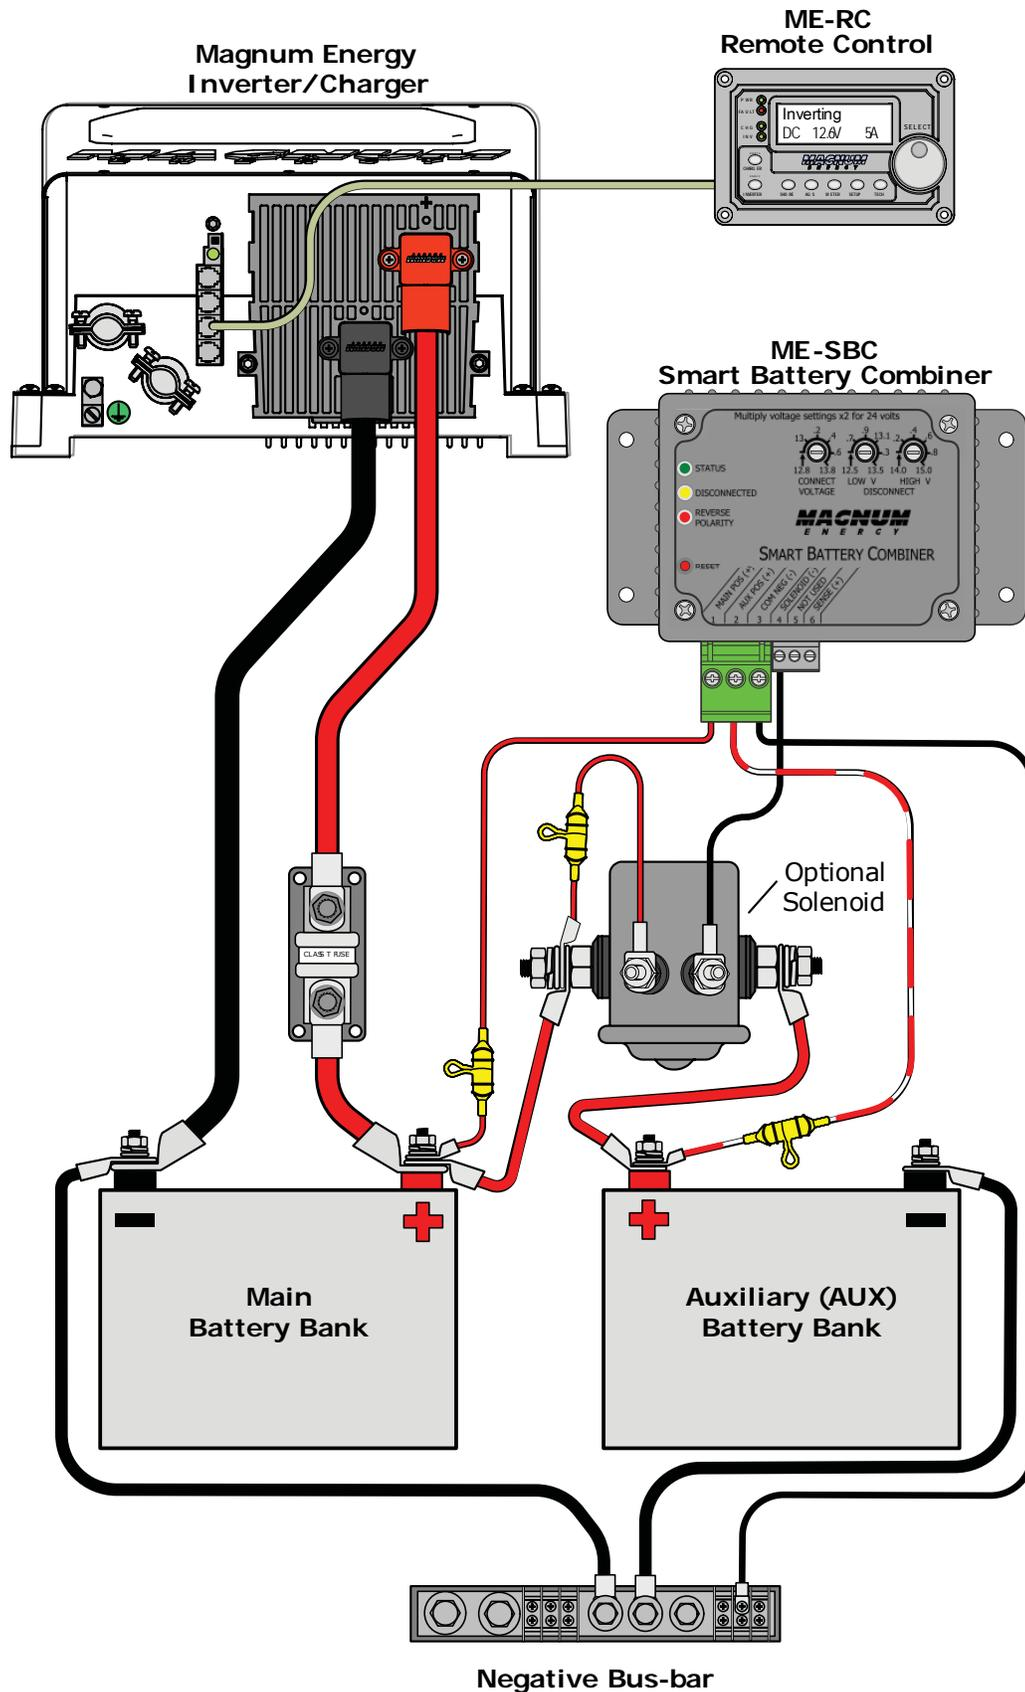

Figure 2-6, Solenoid Drive
**Solenoid Drive** - If more battery combining capacity (or Ampacity) is required the installer can employ any solenoid, so long as the coil of that solenoid consumes less than 2 Amps. The source that provides power to the solenoid must not exceed 40 VDC. This circuit switches DC Negative to the accessory terminal block position #4 entitled **Solenoid (-)**. For this configuration please see **Figure 2-6**.
The ME-SBC™ should now be mounted, if not please refer to **section 2.2**. During installation please refer to **Figures 2-6** during the following steps: